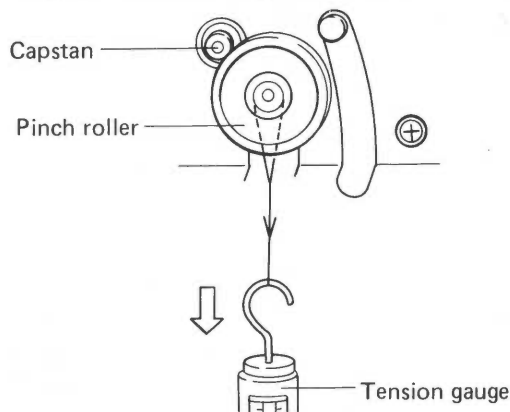

Fig. 6-6 Pinch roller pressure adjustment
2. Put the unit into PLAY mode, but without any tape in the reels, and pull the tension gauge straight down while gently pressing against the cap of the pinch roller by hand (see Fig. 6-6). Then check that the pinch roller disengages the capstan within the 1.2 – 1.4kg tension gauge reading range, and that the pinch roller ceases to rotate.